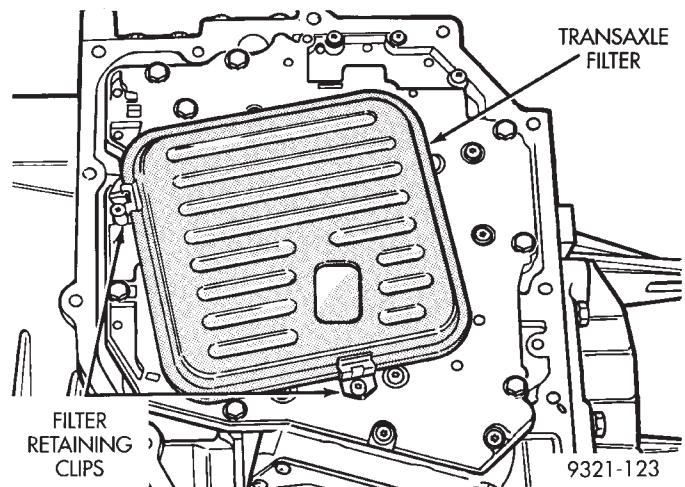

Fig. 45 Remove Transaxle Oil Filter
- (6) Remove oil filter from valve body (Fig. 45). It is held in place by two clips.